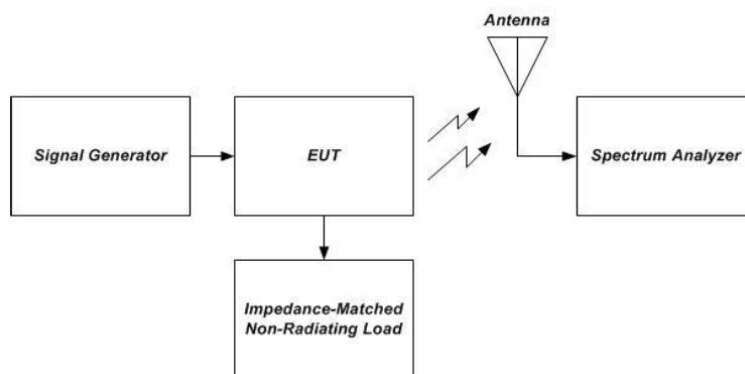

Figure 10 – Radiated spurious emissions test and instrumentation setup
- Connect the EUT to the test equipment as shown in Figure 10 beginning with the uplink output (donor) port.